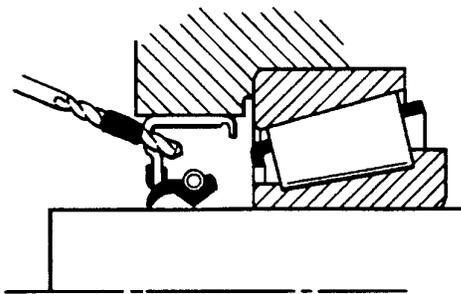

Figure 1A Drill Method
6. OIL SEAL REPLACEMENT ONLY--Figures 1A, 1B and 1C.